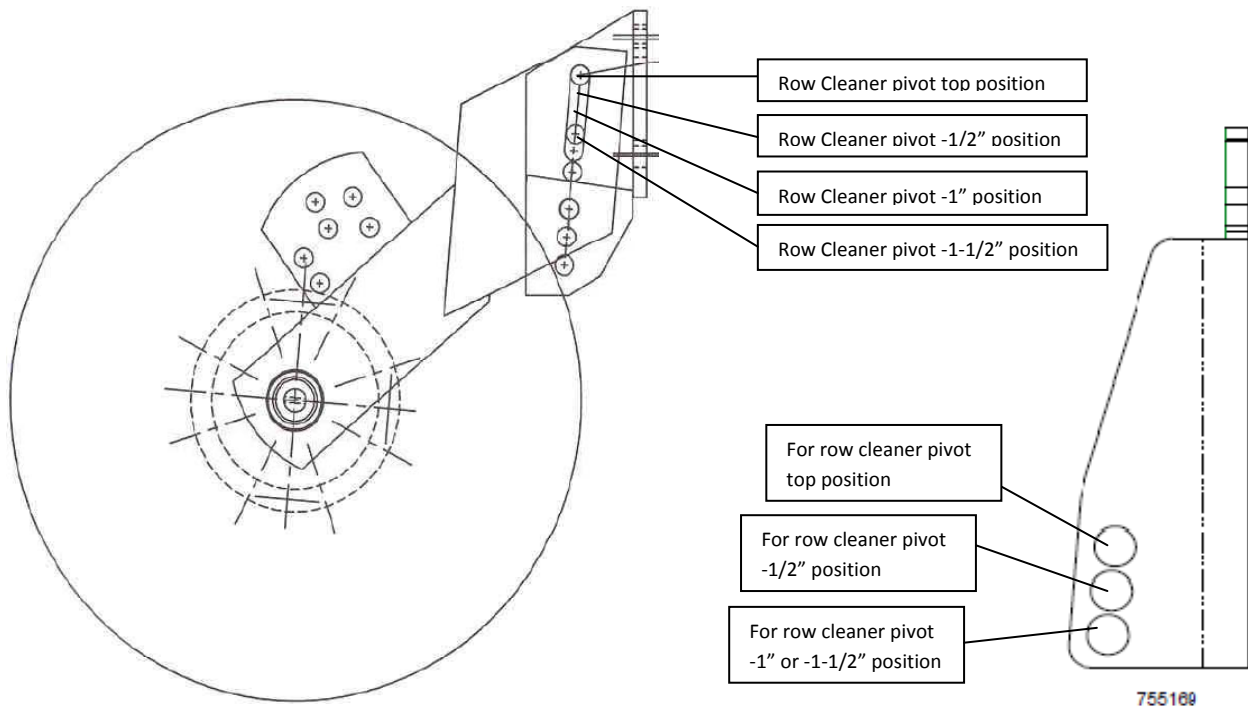

Figure 1 Cylinder Base Mount Configuration for 755170
- Mount cylinder in the hole that corresponds to the position of the row cleaner pivot. E.G: If the row cleaner pivot is in the top most position, use the top hole to mount the cylinder to the base bracket. If the row cleaner is 1/2" below the top position, use the middle hole. If it's 1" below the highest position, use the bottom hole. If it's lower than that use the bottom hole and check to make sure there's clearance around the cylinder (in all functional positions) before using CleanSweep. CleanSweep cannot be used if the row cleaner pivot is lower than 1.5" below the highest position. (see Figure 1)